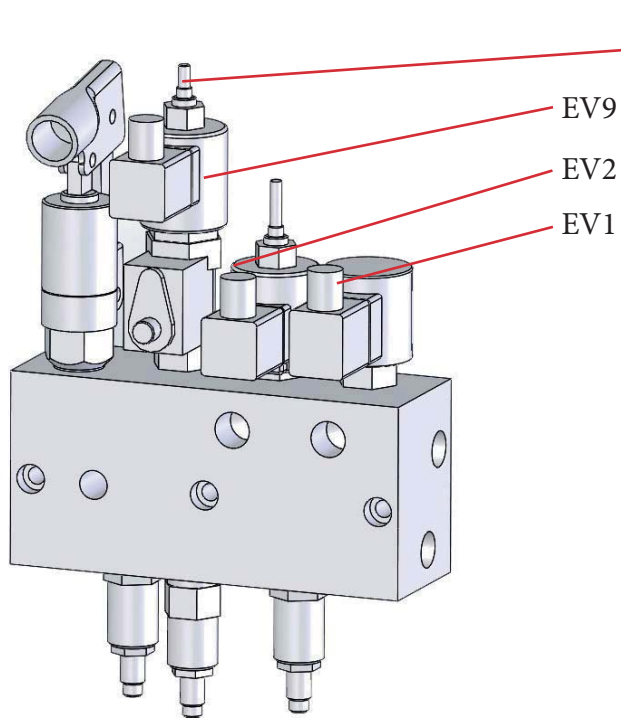

Fig. 4.2
1. insert manually the valve EV09 (fig. 4.2)